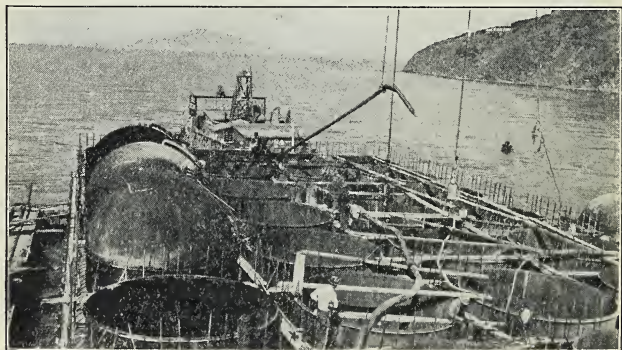

Fig. 45. A huge caisson used in building the great bridge,  $8\frac{1}{4}$  miles long, from San Francisco across the bay to Oakland.
- In building great bridges, foundations must often be sunk through water and mud to bed rock. The caisson is a structure that allows man to do this work on the bottom of the river. It is a steel chamber into which air is driven until the water is forced out the bottom (Fig. 45). Men can then work in the compressed air on the bottom of the river. In entering and leaving the caisson, the men must be subjected to gradual change of pressure as is the sea diver.